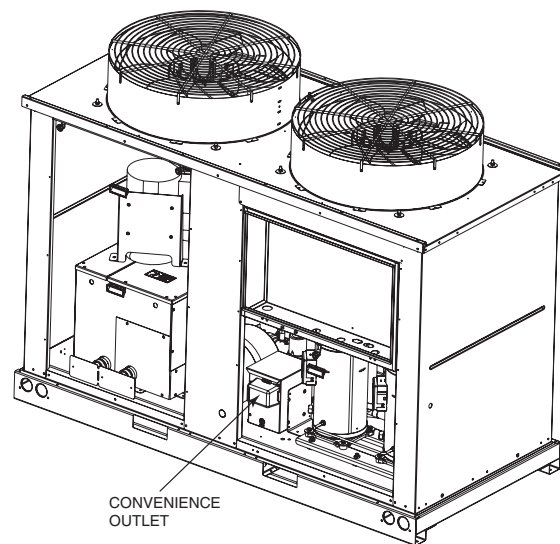

Fig. 1 — Accessory Convenience Outlet Installation Location — 30RAP010-030 (Shown), 38APS,APD025-030 Units
6. Install the GFI-CO accessory box in the location shown in Fig. 1. Use the included sheet metal screws to fasten box to the basepan.